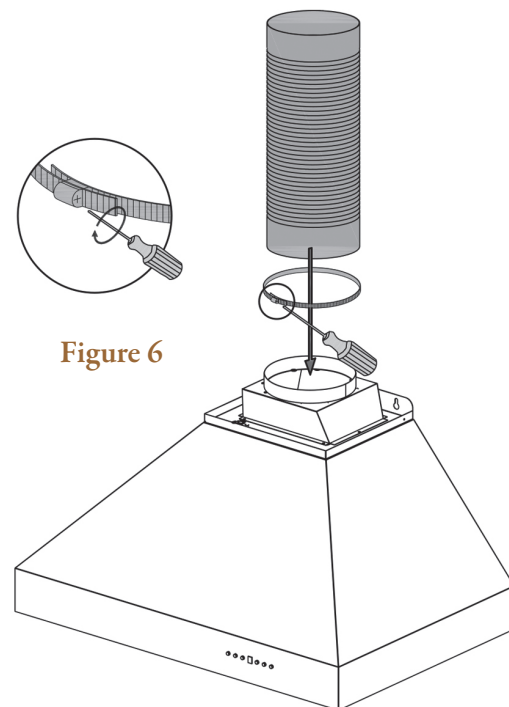

Figure 6
- 7 Connect the ducting to the transition piece using ring to hold into place. (Figure 6)